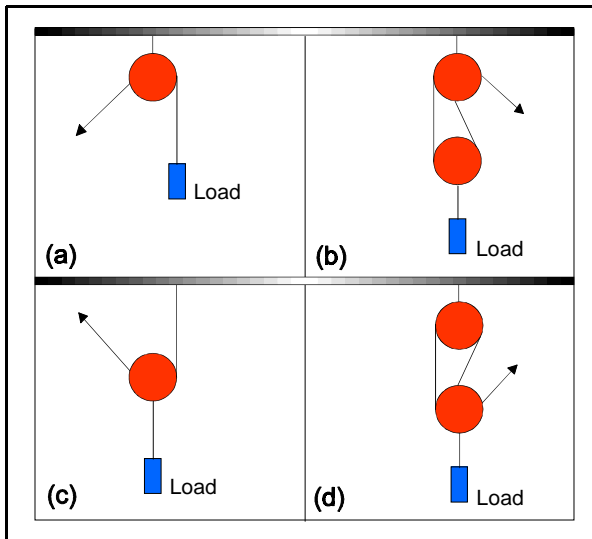

Fig 1.28 Calculation of Mechanical Advantage
- you determine your MA by the number of pulleys available and the configuration of the system when a pulley is added to a tackle (see Fig 1.28);